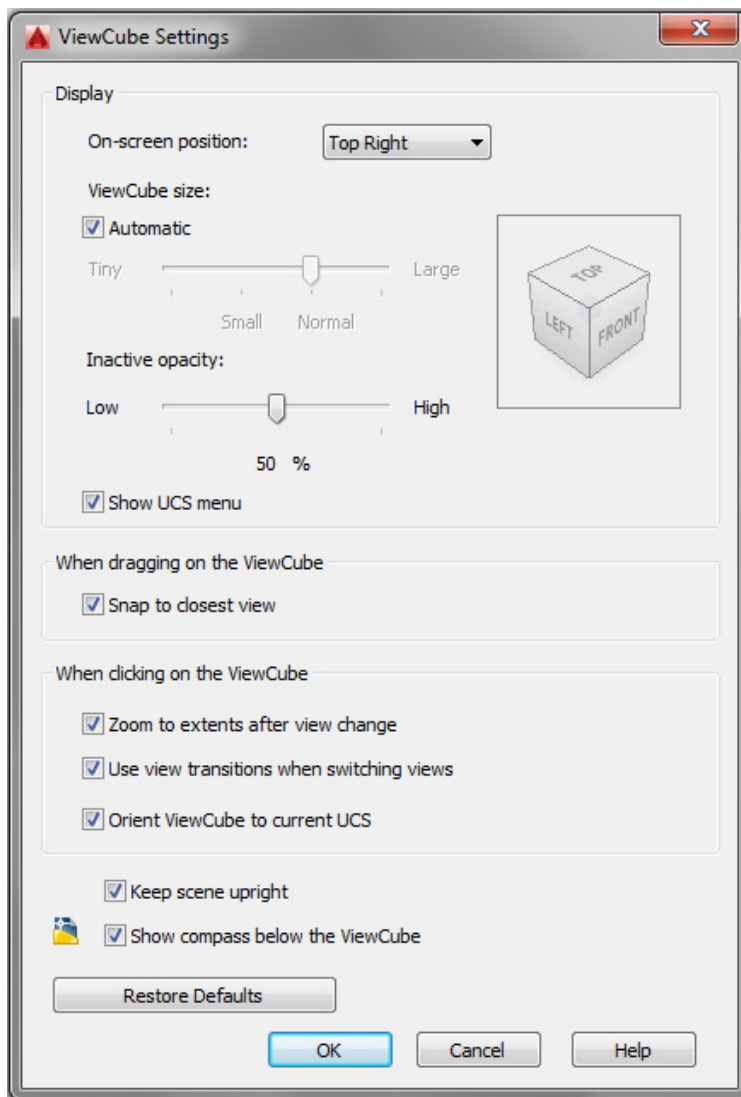

Figure Step 8
Step 8 Set the ViewCube Settings dialogue box as shown in the figure. (Figure Step 8)